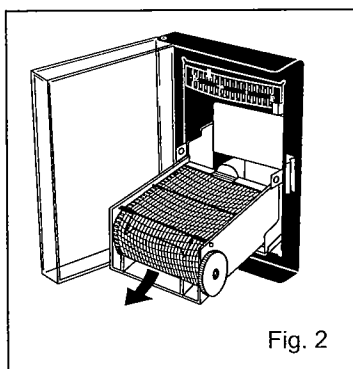

Fig. 2
2. Pull the cartridge out of the mounted position. (Fig. 2)
6. As shown in Fig.2, secure the temperature recorder to the control panel using with the fixing kit.